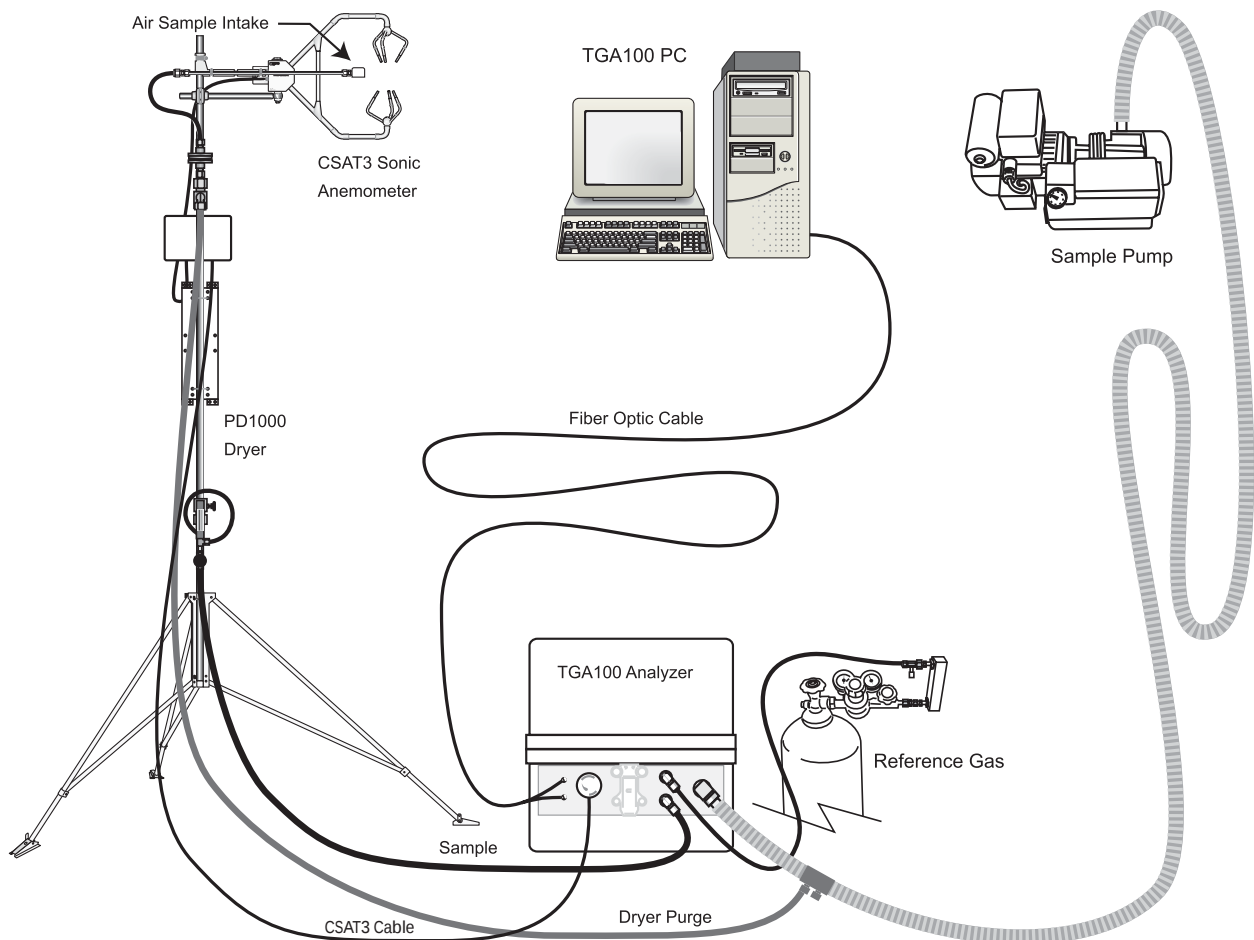

Figure 1-5. Example Eddy Covariance Flux Application
The TGA100's sample rate, frequency response, sensitivity and selectivity are optimized for measuring trace gas fluxes using the eddy covariance (EC) method. It is designed to collect three-dimensional wind data from a CSAT3 sonic anemometer while synchronously measuring trace gas concentration. Figure 1-5 illustrates a typical EC application. The sonic anemometer and air sample intake are mounted on the measurement mast. Tubing connects the air sample intake to the inlet of a PD1000 sample air dryer, which filters and dries the air sample. A needle valve at the outlet of the PD1000 sets the sample flow rate, typically to approximately 15 slpm. The TGA100 analyzer is located near the base of the measurement mast to minimize the length of sample tubing. This avoids the attenuation of high frequencies in the concentration data that can be caused by excessive tubing length. The TGA100 PC requires shelter from the environment, but can be located up to 500 m (1650 ft) away from the TGA100 analyzer, connected by fiber optic cable. The sample pump requires minimal shelter and can be located up to 90 m (300 ft) away from the analyzer, connected by the suction hose. The CSAT3 connects to the TGA analyzer by way of a TL925 serial interface module, which can be mounted inside the analyzer enclosure for protection from the environment.